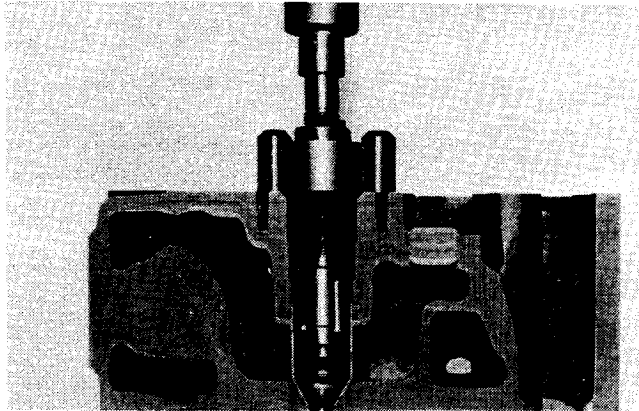

Fig. 2-16, (N10222). ST-880 in upper injector sleeve bores
- Roll top 1/2 inch [12.70 mm] area of sleeve with ST-880 Expanding Roller. Fig. 2-16. Use in-lbs torque wrench to turn ST-880; turn mandrel until a 75 in-lbs [8.5 N•m] maximum torque reading is obtained on torque wrench.